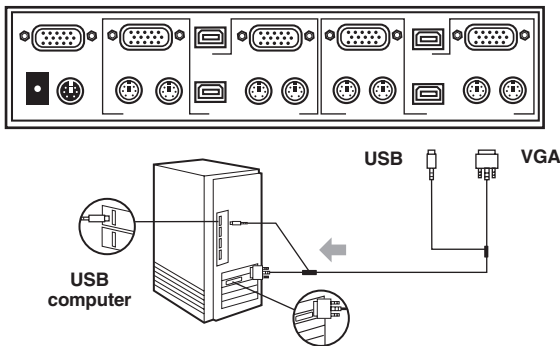

Figure 3-4. USB computer connections.
1. Connect the ServSwitch USB Cable's (EHN7001213UV-0006) USB connector to the PC1 USB port on the back of the ServSwitch. Connect the cable's VGA connector to the ServSwitch unit's PC1 VGA connector. See Figure 3-4.